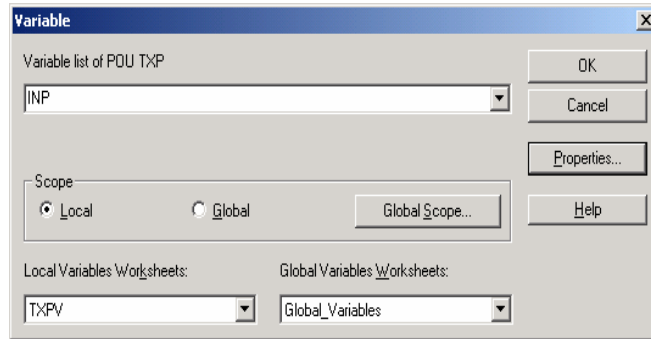

Figure 60:
- Now you have to introduce inputs and outputs of TXP. Double click on IN input of TP_1 the Variable dialog box appears as shown in figure 60. Since this variable is a candidate for being an input to the function block, select a